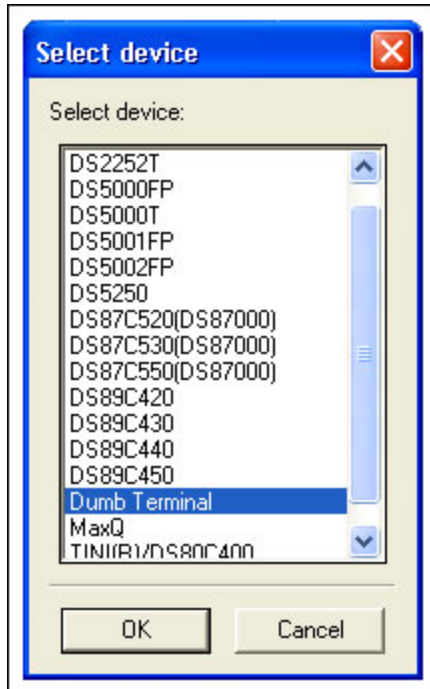

Figure 4. Select device.
2. Locate and run the MTK program. When the "Select device" window appears (**Figure 4**), select **Dumb Terminal** and click **OK**.